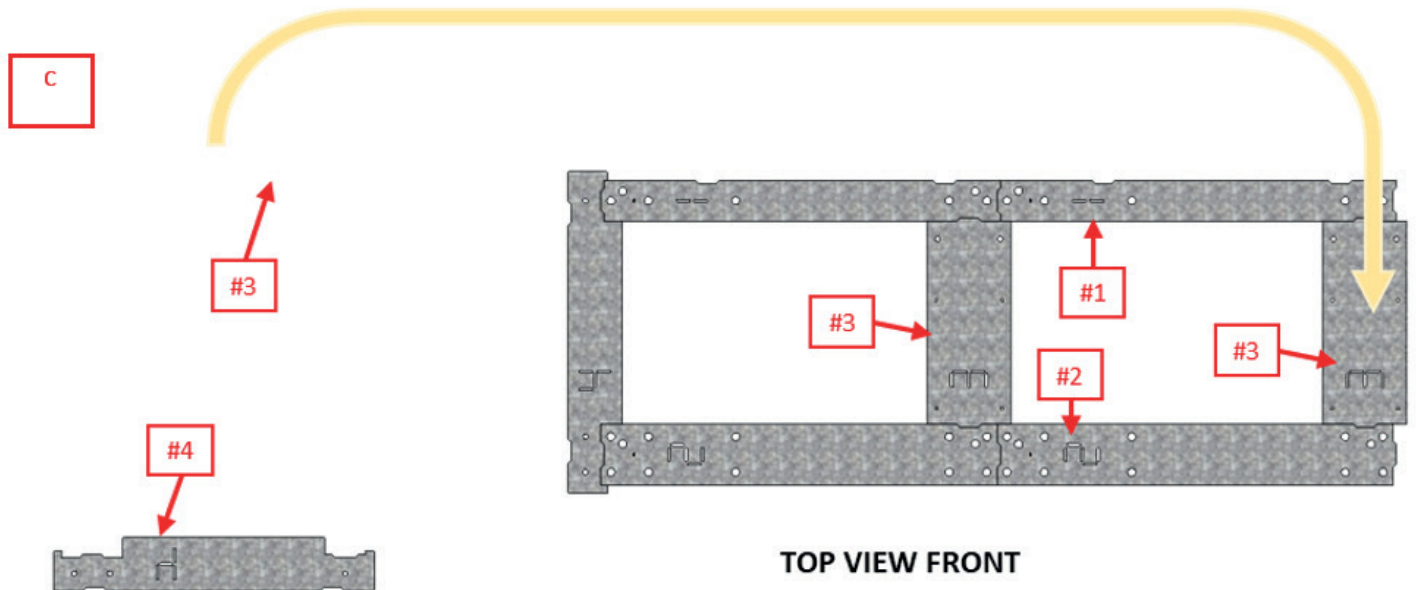

Figure 58. 2nd C-Cab XXL Template Location.
- Move template #3 to the end and join template #1 and template #2. Template #4 is no longer used (refer to Figure 58 c).